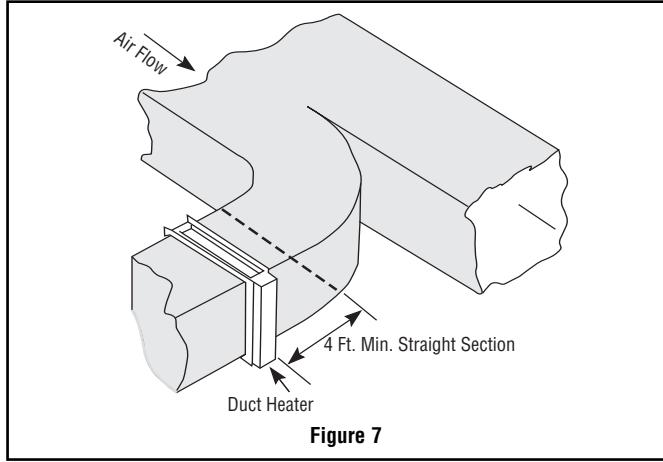

Figure 7
3. Installation in branch duct take-off. (Refer to Figure 7).